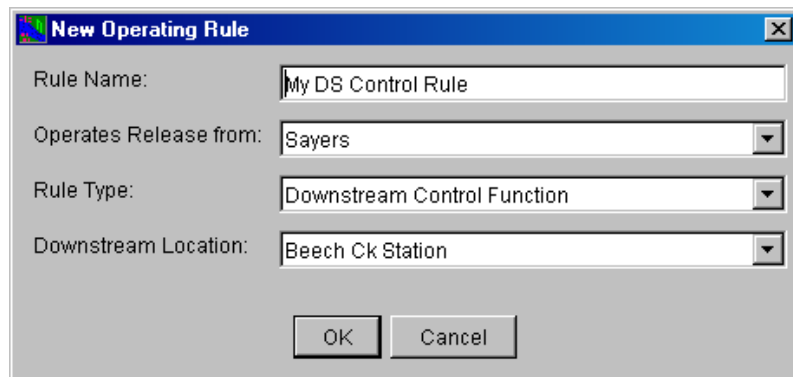

Figure 11.17 Reservoir Editor--New Operating Rule: Downstream Control Function
1. To create a downstream control rule, follow the instructions for creating a new rule as described in Section 11.5.1. After selecting the **Operate Release from** to be the *reservoir* and the **Rule Type** to be **Downstream Control Function**, be sure to select the downstream control point from the **Downstream Location** list that appears when you select the Downstream Control Function rule type. Figure 11.17 illustrates the creation of a Downstream Control Function rule.